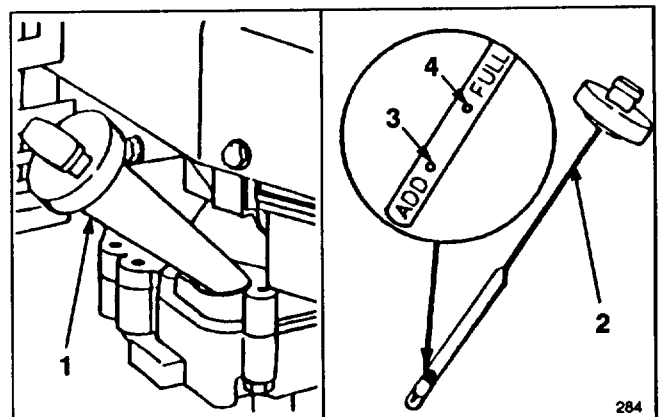

Figure 8
Fill crankcase with SAE 30 oil until oil level reaches FULL mark on dipstick as shown in Figure 8. The maximum crankcase capacity is 25 ounces (0.75 liters) of oil. Use any high quality detergent oil having the American Petroleum Institute (API) "service classification" — SE, SF or SG.
Before each use, ensure oil level is between ADD and FULL marks (Fig. 8). Add oil if level is low.
3. Wipe dipstick and insert it into filler neck. Rotate cap 1/4 turn. Then remove dipstick and check level of oil (Fig. 8). If level is low, add only enough oil to raise level to FULL mark on dipstick. **DO NOT FILL ABOVE FULL MARK BECAUSE ENGINE COULD BE DAMAGED WHEN STARTED. POUR OIL SLOWLY.**
1. **CHECK OIL LEVEL**—Maintain oil level between ADD and FULL range as shown on dipstick (Fig. 8).